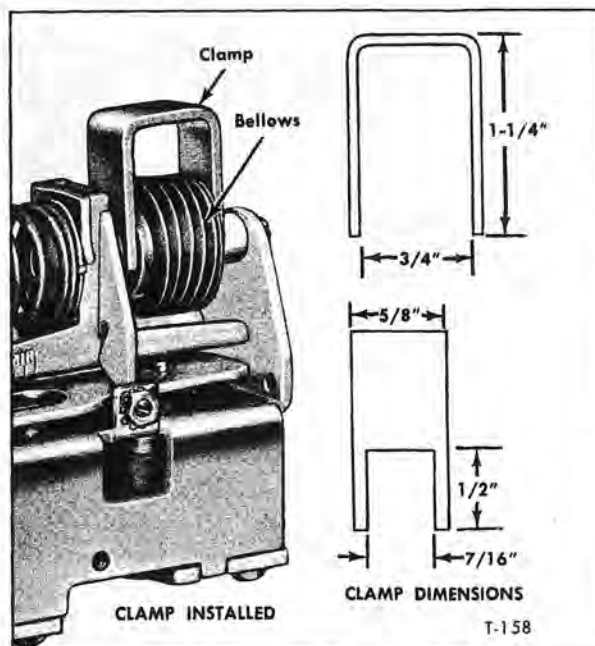
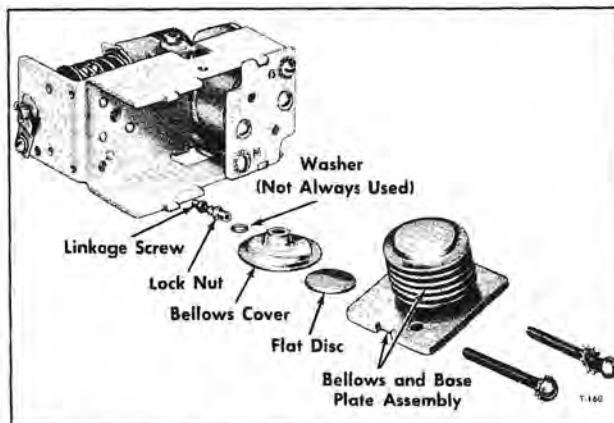
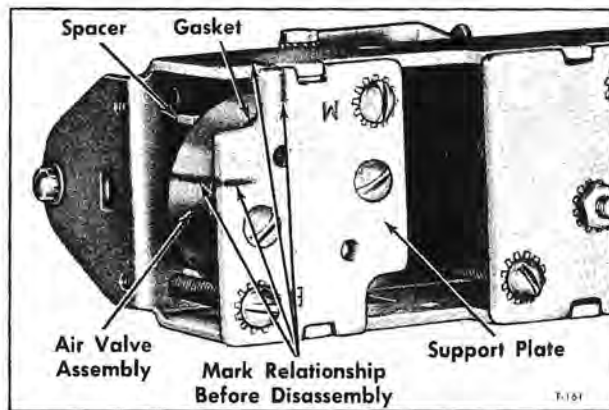

Figure 20—Bellows Clamp Installed
Figure 21—Barometric Bellows Components
Figure 22—Grad-U-Stat Air Valve Installed
1. Place a bellows clamp on the temperature bellows (11) to prevent over-expansion of the bellows (fig. 20) when it is removed. NOTE: Clamp can be fabricated locally using dimensions shown in figure 20.
2. Loosen locking latch screw (4), disengage latch (2), from adjusting screw (3), then turn adjusting screw clockwise until the indicator (7) is at its low end and the tension on the main spring (8) is relieved. Slip out the main spring (8) spring seat (21) and indicator assembly (7). If necessary, loosen scale (5) mounting screw.
3. Temperature bellows (11) may be removed by removing bellows mounting screw on both ends of bellows.
4. Loosen main lever pivot screws (19) and lift out main lever (9).
5. Remove the two screws holding the secondary lever (12) and lift out secondary lever. It may be necessary to loosen the indicator bracket screw before lifting out the secondary lever if the lock washer under this screw overlaps the lever. Remove barometric linkage screw (17) with small flat washer, bellows cover and flat disc. These components are shown in figure 21.
6. Mark air line manifold (13), air valve assembly (14), support plate under air valve assembly and Grad-U-Stat frame, to ensure proper placement in assembly (fig. 22).
7. Remove air line manifold (13) by removing two mounting screws, taking care not to damage sealing surfaces.
8. Remove air valve assembly (14) by unscrewing two screws holding valve and its support plate (23) to Grad-U-Stat frame. Remove U-shaped spacer (20).
9. Remove air valve assembly (14) from its support plate by removing two attaching screws,
10. Remove barometric bellows (15) with base plate by unscrewing the two screws that hold it in place. Figure 21 shows bellows removed.
4. Install the main lever (9) in place and secure by tightening main lever pivot screws (19). The main lever pivot screws should allow from 0.005" to 0.010" side play of main lever to prevent binding.
5. Install temperature bellows (11) in place using attaching screw with internal-teeth lock washer at stationary bracket and regular lock washer at main lever screw. **DO NOT REMOVE BELLOWS CLAMP.**
6. Slip main spring (8) with main spring seat (21), and indicator assembly (7) in place.
8. Install the air valve assembly (14) and its support plate and spacer (20) in the Grad-U-Stat frame with four screws, to alignment marks made at disassembly. Make sure the pin on the extension nut (16) goes through the hole in the secondary lever (12). Don't force the air valve assembly in place; screw down extension nut, if necessary. If pin does not fit loosely in secondary lever hole, realign secondary lever (12) by pressing on one side with screwdriver.
**NOTE:** The valve unit spacer (20) should be installed with the open end of horseshoe shape facing out as shown in figure 22. Purpose of spacer is
Should a replacement air valve assembly (14) be installed, place a new gasket (fig. 22) on bottom of air valve. Make certain that new unit is properly oriented by observing relationship between mark made on old unit in disassembly and holes in bottom of air valve assembly. Place mark on new unit to match mark on old unit to insure proper installation of new air valve assembly with its support plate, air line manifold (13) and Grad-U-Stat frame.
9. Using a new gasket if required, install air line manifold (13) by aligning marks made at disassembly. Tighten two mounting screws evenly to prevent air leakage.
10. Install barometric bellows (15) by inserting barometric bellows linkage screw (17) with lock nut into hole in secondary lever (12). Install bellows cover, flat disc, and bellows with base plate. Install two screws that hold barometric bellows base plate to Grad-U-Stat frame. Figure 21 shows components removed.